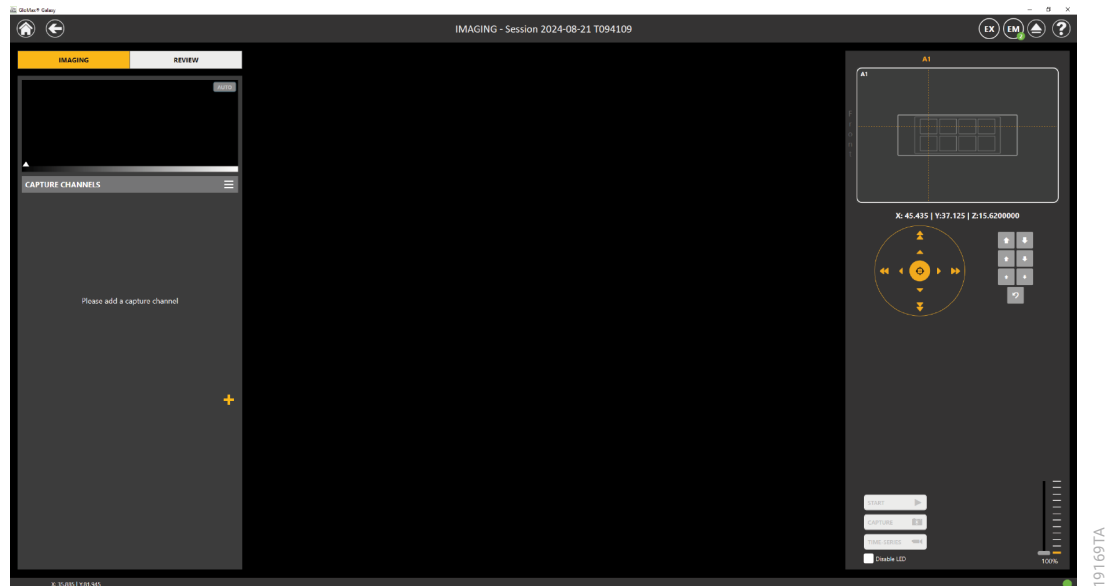

Figure 8. 'Imaging' screen for a new session.
- Select **Start**. The 'Imaging' Screen will open (Figure 8).